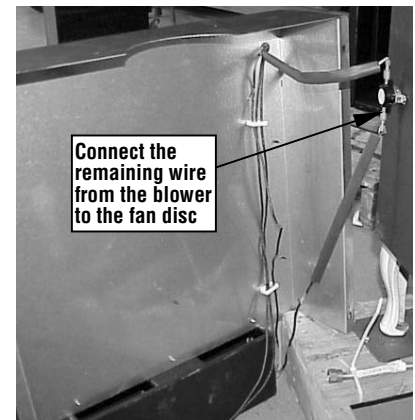

Figure 7
7. Connect the remaining black wire from the blower to the bottom terminal on disc as shown in Figure 7.